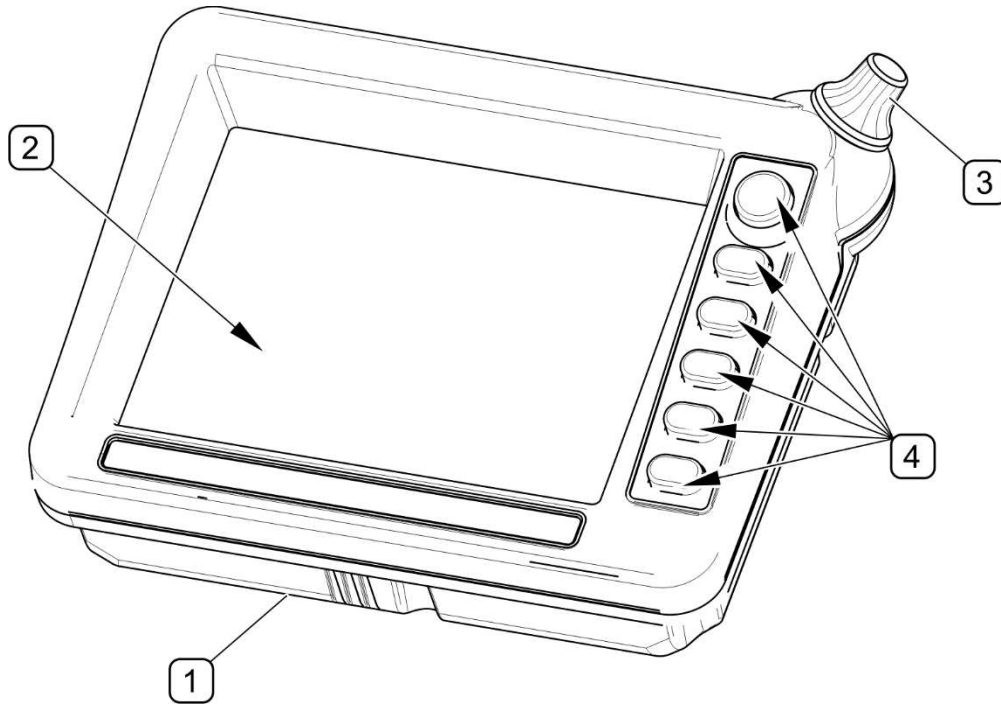

FIGURE 3.9 General design of control panel
(1) - enclosure; (2) - LCD display ; (3) - parameter change knob; (4) - function push-buttons
Control panel (FIGURE 3.9) consists of enclosure (1), colour LCD display (2), parameter change knob (3) and six function push-buttons (4).